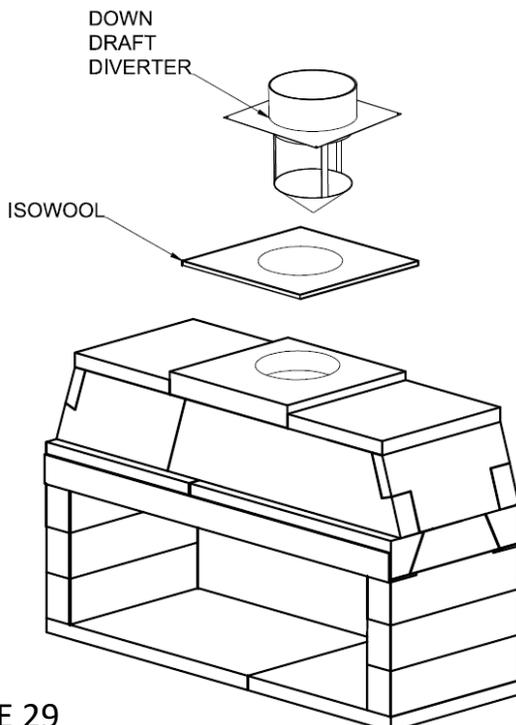
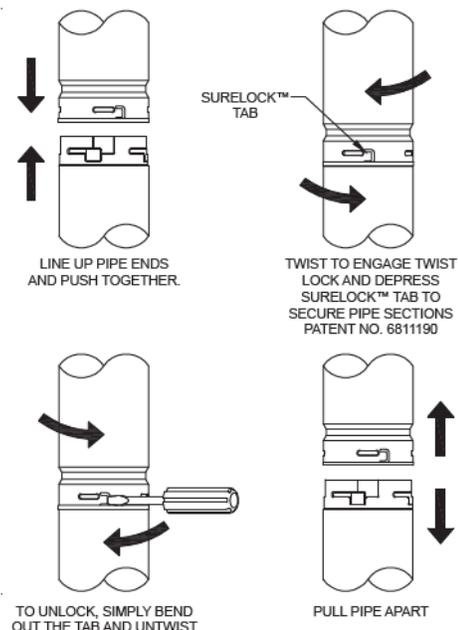

FIGURE 29
FIGURE 30
- 2) Center the Isowool blanket over Isokern Top Plate’s outlet and trace the outlet’s outline with a pen or marker. Cut a hole in the blanket along this outline to match the hole in the Isokern top plate. Center the cut Isowool blanket over the Isokern Top Plate flue opening, then center Anchor Plate over the Isowool blanket (**Figure 29**).
- 3) Secure the Anchor Plate with four (4) masonry anchors.
- 4) Starting at the anchor plate, attach the first section of B-Vent Pipe. A minimum of 12” of straight pipe will be required before any offset. The B-Vent sections and components use the Metal-Fab positive twist-lock for interconnections. Align the ends of the vent, push together then twist section to lock in place (**Figure 30**).